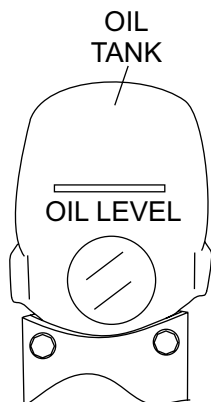

Figure 7. Oil Tank (Front View)
- When adding hydraulic oil, only fill to the specified oil level as marked on the front of the hydraulic oil tank (Figure 7). **DO NOT** overfill.